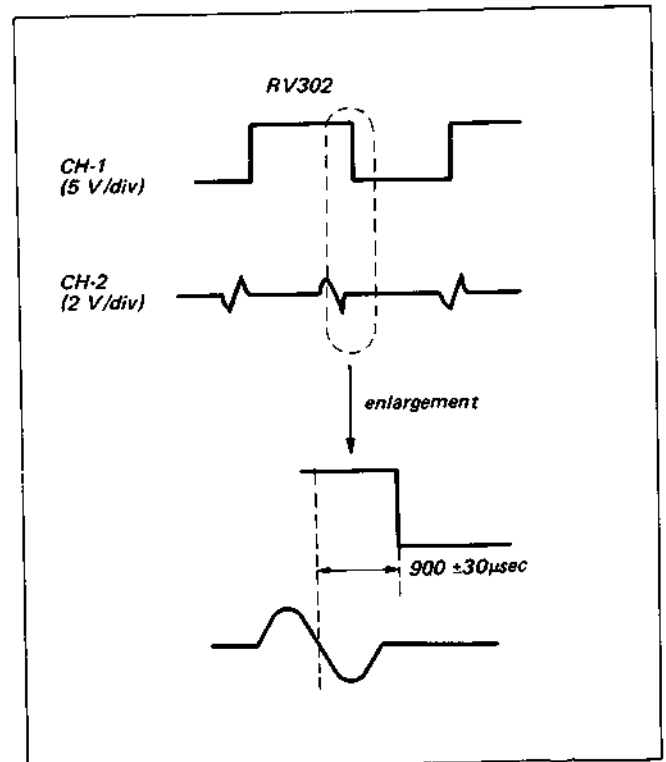

Fig. 5-8. RF switching position adjustment (1)
- i) Adjust to $900 \mu\text{sec} \pm 30 \mu\text{sec}$ with RV302. (See Fig. 5-8.)